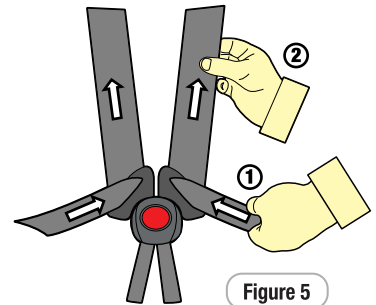

Figure 5
**Step 5:** Remove all of the slack for the harness lap straps by pulling shoulder straps (refer Figure 5), then pull the harness adjustment strap to adjust harness to a comfortable but firm fit (refer to Figure 5 & 6).